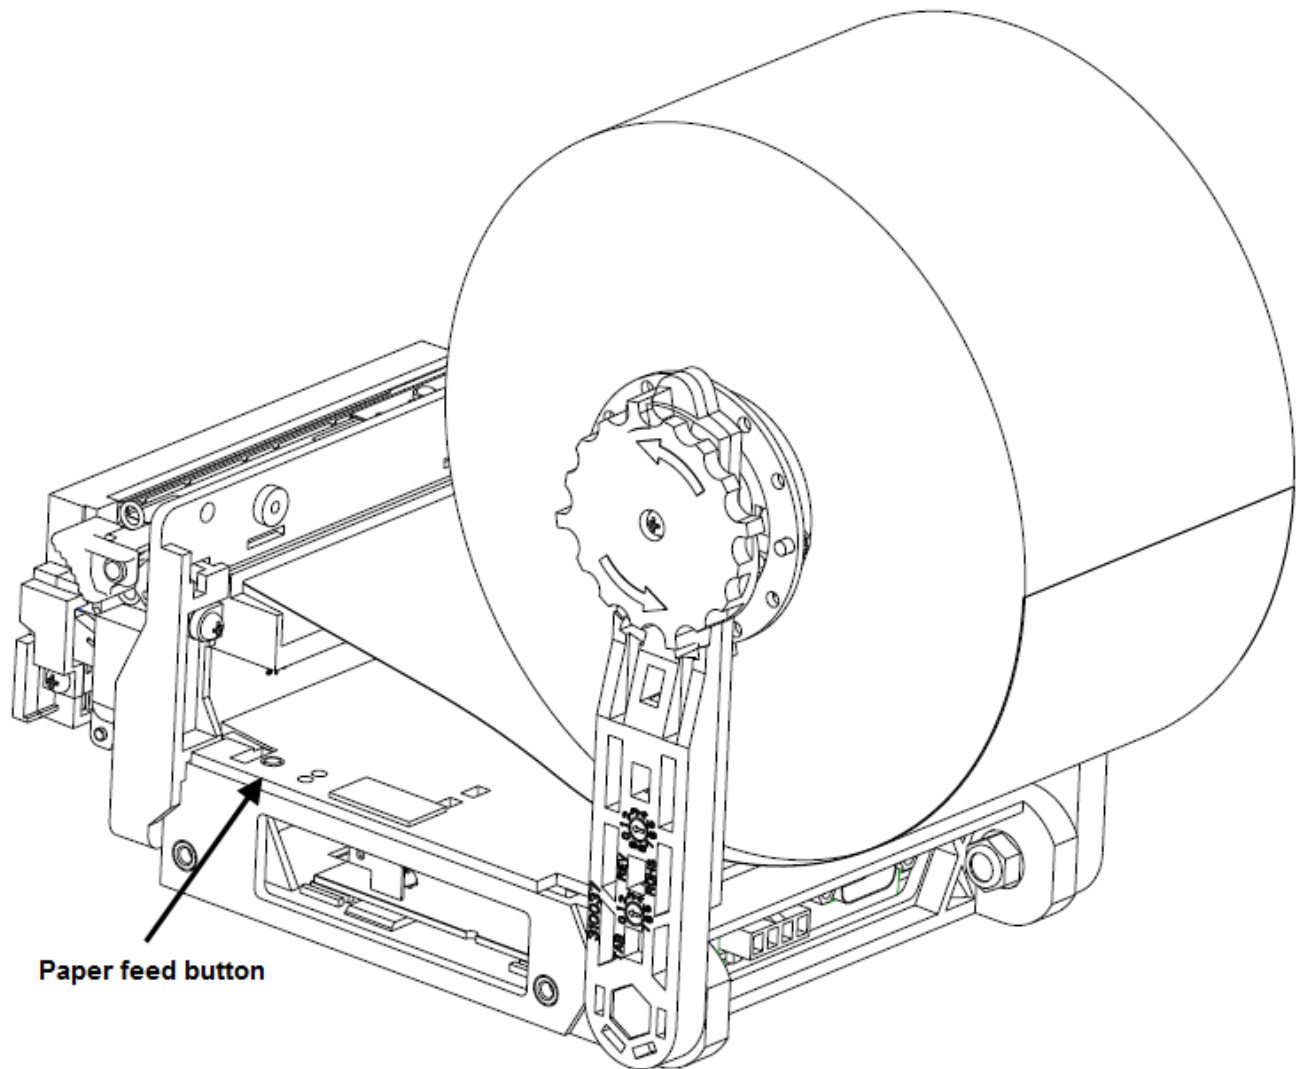

Figure 3: Paper Feed Button
5. Feed the paper between the metal tabs, once far enough, the paper in sensor will activate and feed paper to a predetermined length. Press the paper feed button (Figure 3 & 4). The paper will advance and the paper will be cut, leaving a clean edge for the next printed ticket.
To print these tickets, power-on the printer while pressing and holding the Paper Feed Button (Figure 3) for approximately 3 seconds. The test tickets will be printed approximately 5 seconds later.